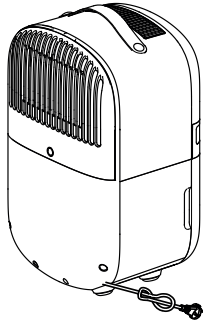
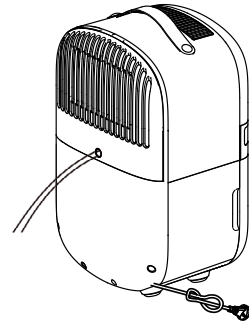

Fig. 4
Fig. 6
2. Unplug the power cord. Ensure a good access to the back panel (Fig. 4).
3. Break out the drain hole plug in the filter cover (6), remove the cover and remove the rubber plug from the drain hole.
4. Pull the drain tube (12) through the hole in the cover and push it into the drain slot under the cover (Fig.6).